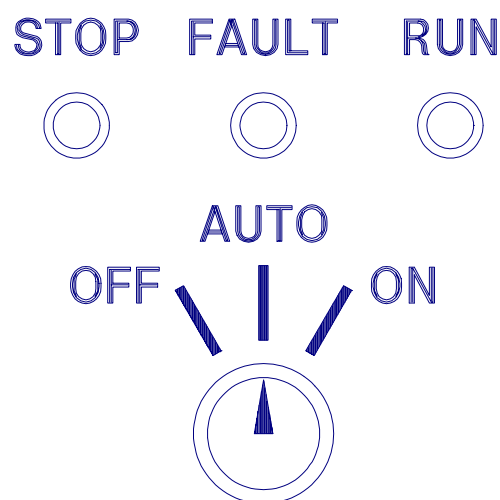

FIG 9.1.1
- Standard modules available which include a pcb module (3 options) with switch and LEDs, a connector block for field wiring, and labels (see Fig 9.1.1).